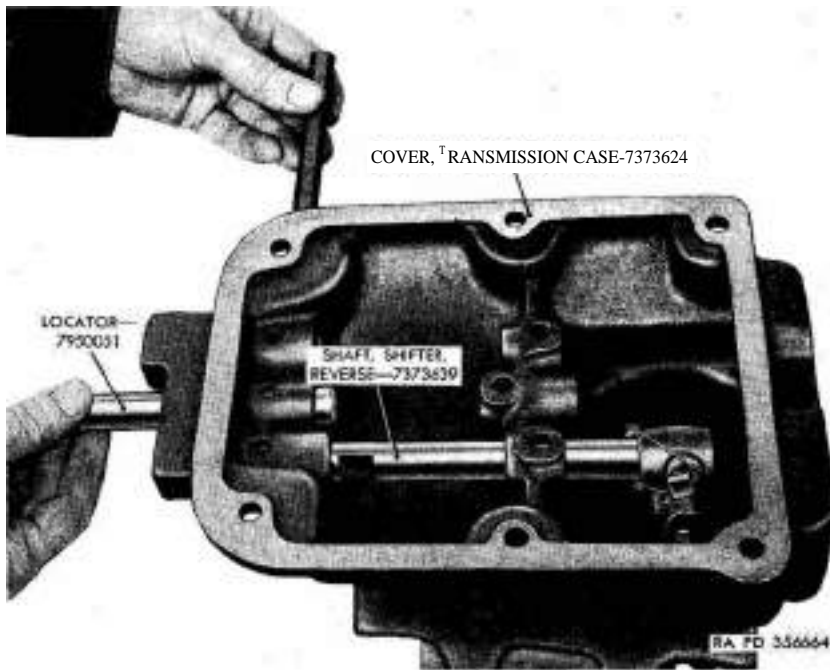

Figure 115. Installing shifter shaft interlock plunger.
- (1) Insert shifter shaft interlock plunger (G) in locator (fig. 115). Place locator in case cover third and direct speed shifter shaft opening. Aline interlock plunger with passage in transmission case cover and push plunger into adjacent section of cover casting so that plunger will be between reverse shifter shaft and third and direct speed shifter shaft.